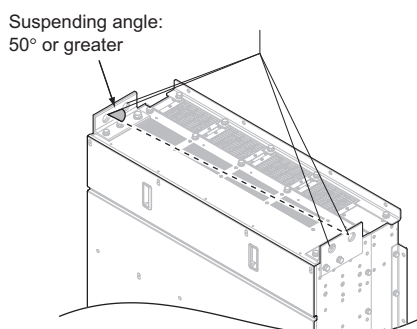

**Figure 2.8 Drive Suspension Using Wires and Hanging Brackets (2□0154 to 2□0248, 4□0156 to 4□0414)**
**WARNING! Crush Hazard.** Use an adequate length of wire to ensure a 50° or wider suspension angle as illustrated in Figure 2.8. The maximum allowable load of the eye bolts cannot be guaranteed when the drive is suspended with the wires at angles less than 50°. Failure to comply may result in serious injury or death from falling equipment.